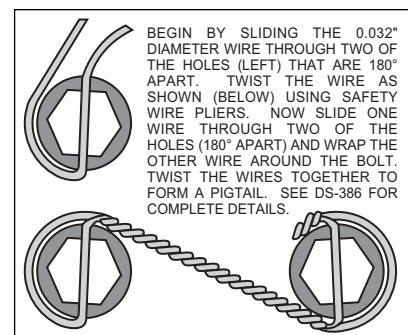

Figure 4. Safety Wire Diagram
using washers (13) and bolts (14). Torque bolts (14) to 85 **in-lb**. Safety wire bolts (14) using standard 0.032 inch diameter stainless steel safety wire as shown in Figure 4. Please refer to Wilwood's data sheet DS-386 (available at www.wilwood.org/ds386.pdf) for complete safety wire installation instructions.
- Slide the rotor/hat assembly over the studs (7) in the hub (8) taking care to align the small countersunk holes in the hat (12) with the small threaded holes in the hub (8). Install three flat head socket screws (15) through the small holes in the hat (12) and torque to 85 **in-lb**.
- Pack the small outer bearing cone (16) with high temperature disc brake bearing grease and install into front of hub (8). Slide the hub/rotor assembly (8 and 11) with outer bearing cone (16) onto the spindle. Secure using spindle washer (17), stock adjusting nut and nut locking device. Adjust bearings per Original Equipment Manufacturer (OEM) specifications.
- Install the dust cap (18) and o-ring (19) onto the hub (8). Friction created by the o-ring (19) on the dust cap (18) keeps it from unscrewing.
- NOTE:** Please reference the caution statement at the beginning of the assembly instructions. With the bleed screws pointing up, mount the caliper (20) onto the caliper bracket (1) using flat washers (21), lock washers (22), bolts (23) and shim washer (21) positioned between caliper and bracket. Finger tighten. View the rotor (11) through the top opening of the caliper (20). The rotor (11) should be aligned in the center of the caliper (20). If not, adjust the caliper (20) by using 0.032 inch thick shims (21) placed between the caliper mounting bracket (1) and the caliper (20). Finger tighten and recheck alignment. Apply red *Loctite*® 271 to bolt threads (23) and torque to 47 ft-lb.
- Remove the caliper bridge spacer and bolt, then install the disc brake pads (24), then reinstall the caliper bridge spacer and bolt.